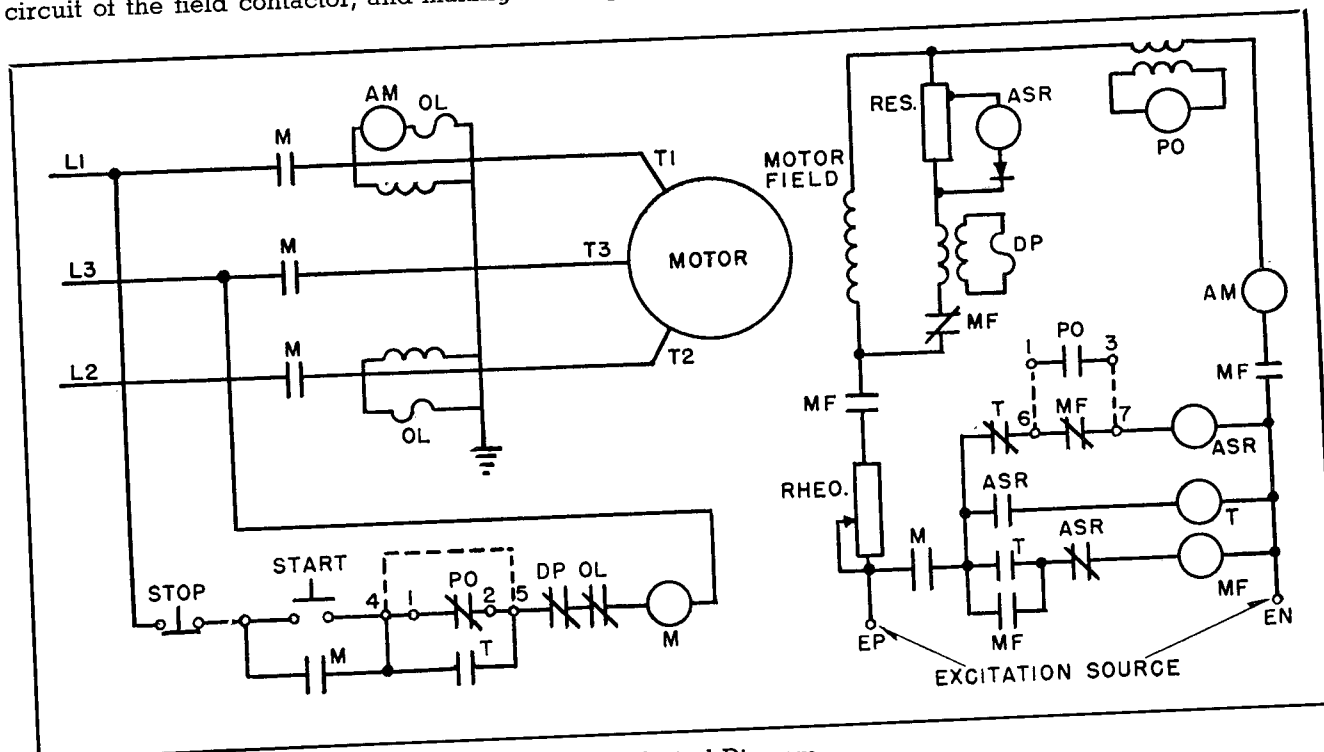

FIG. 2. Typical Diagram
Referring to the typical wiring diagram (Fig. 2), closure of the "Start" pushbutton energizes the line contactor and the motor is connected to the line and is accelerated as an induction motor with its field connected across a starting and discharge resistor through a damper winding protection relay.
Closure of the field contactor places in the circuit a transformer coupled high speed, highly sensitive pull-out relay for protection against failure to synchronize, or for protection in case the motor pulls out of synchronism after being in step. The contacts of the relay are arranged to accomplish either of two functions (1) stop the motor by opening the line contactor (Jumpers 4-1 and 2-5 connected) or (2) remove excitation by opening the field contactor and initiate the resynchronizing action, as for a normal start (Jumpers 4-5, 1-6, 3-7 connected), (See Fig. 2). The fast action of the relay is of special importance for resynchronizing the motor under load, since the faster excitation is removed, the less the loss of speed, and the more rapidly the motor can again pull in. Transient load and voltage variations may cause an a-c current component in the d-c field circuit, which may cause operation of the pull-out relay should the relay be set for high sensitivity. The sensitivity of the relay may be reduced by increasing the armature spring pressure by means of the thumb screw provided. This relay cannot be adjusted to an inoperative position by means of this spring, for with maximum obtainable spring pressure the relay will still operate at approximately 6 percent slip on 60-cycle machines and 12 percent slip on 25-cycle machines. The fast action of the relay is purposely delayed during the period the motor is pulling into step, so that the transient disturbances incident to synchronization